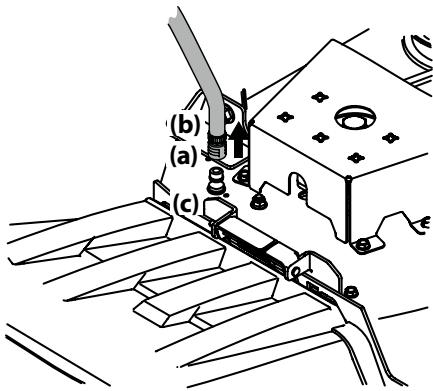

Figure 4-5
- Pull back the lock collar (a) of the nozzle adapter (b) and push the nozzle adapter (b) onto one of the deck wash nozzles (c) at either end of the tractor deck. Release the lock collar (a) to lock the nozzle adapter (b) on the deck wash nozzle (c). See Figure 4-5.